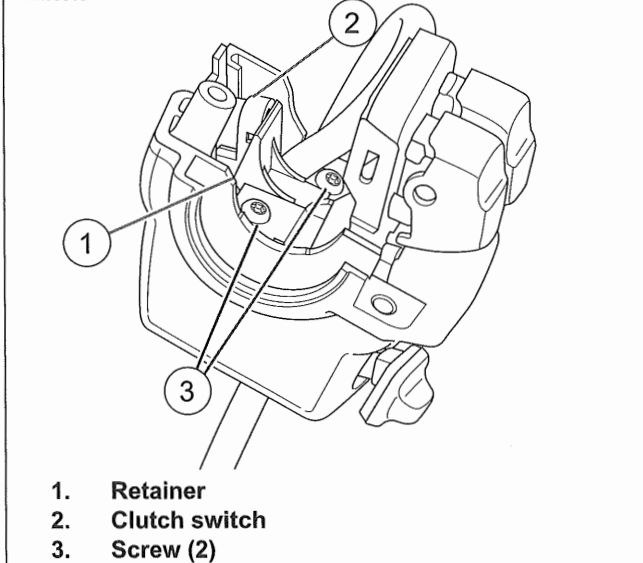

Figure 7-19. LHCM and Clutch Switch Retainer
- c. See Figure 7-19. Remove screws (3) and retainer (1).
- d. Remove clutch switch (2) and LHCM from lower switch housing.
2. See Figure 7-19. Place switch assembly into position on lower switch housing.
3. Install clutch switch (2).
4. See Figure 7-19. Install retainer (1) with screws (3). Tighten.
2. See . From inside the switch housing, remove screws (3) and retainer (1).
3. Remove clutch switch (2) from housing.
9. See Figure 7-19. Install clutch switch (2) into housing. Install retainer (1) and screws (3). Tighten.